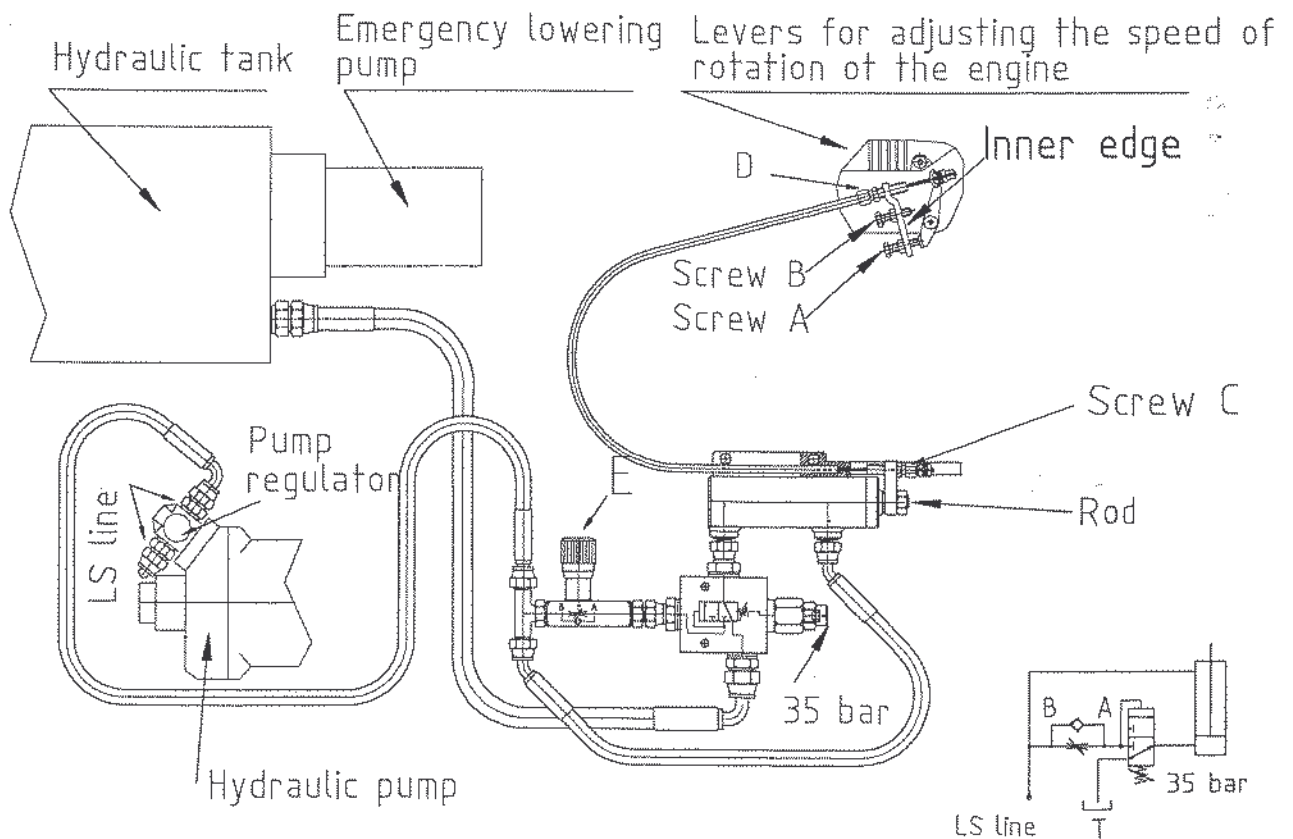

Figure 27.-1 Adjusting the equipment for increasing/decreasing the speed of rotation
1. Support the MEWP on the outriggers, in a horizontal position, wheels approx. 100 mm above ground. Leave the booms in transport position. Unscrew screw B so that the head of the screw is level with the inner edge. Remove the wire rope clip of screw C from the wire rope, refer to figure 27.-1.